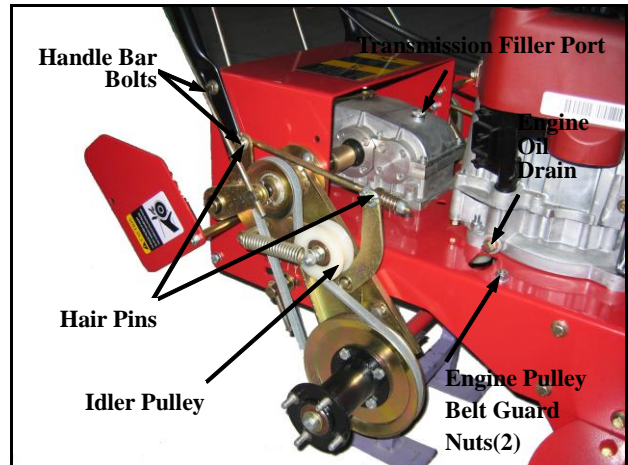

FIG 9 Wheel Drive Belts
2. Remove both Center Spindle Pulley Belt Guards, FIG 6, and loosen and remove Belt Guard from Engine Pulley. Nuts are shown in FIG 9.
### WHEEL DRIVE BELT REPLACEMENT FIG 9